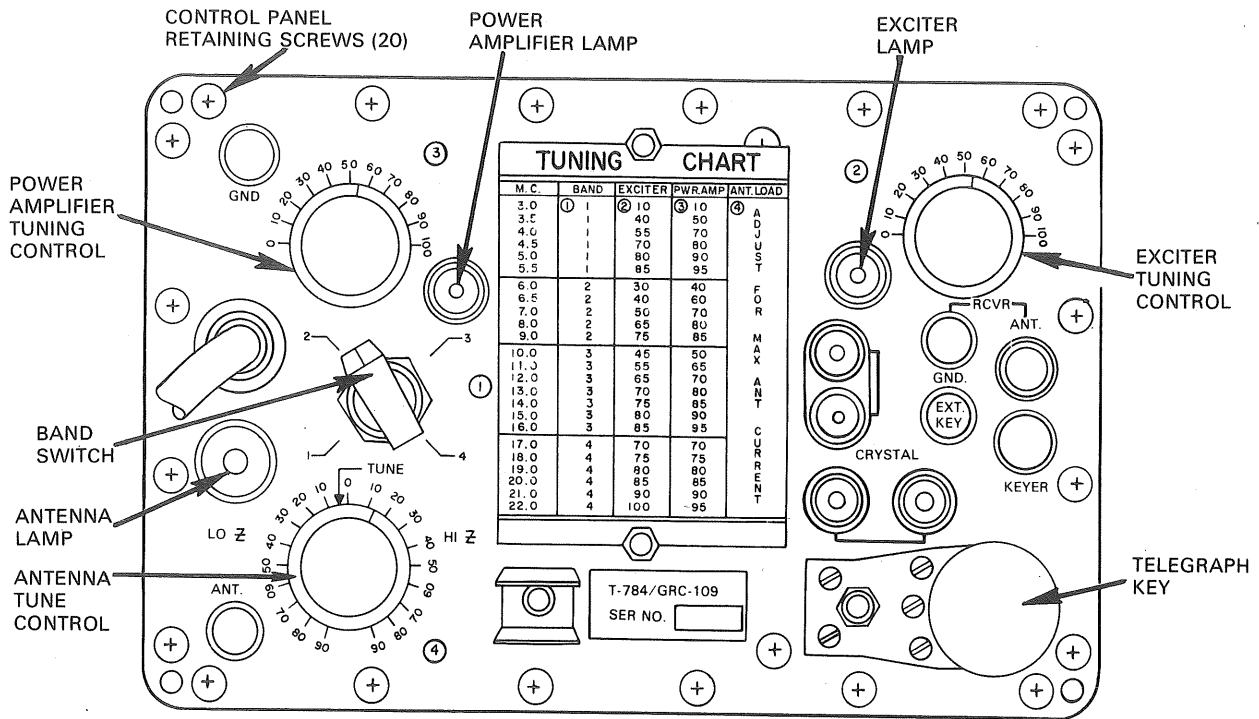

Figure 1. Transmitter T-784/GRC-109.
- a. Make necessary interconnections between components. (Refer to fig 1, 2, and 3.)